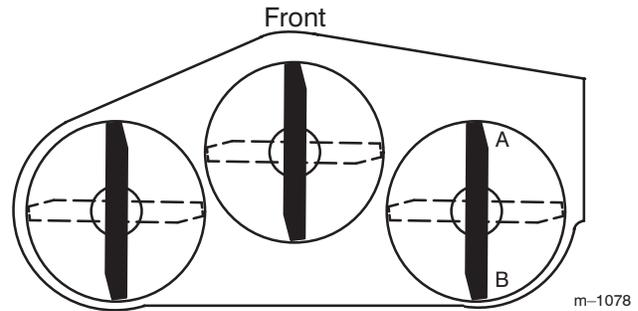
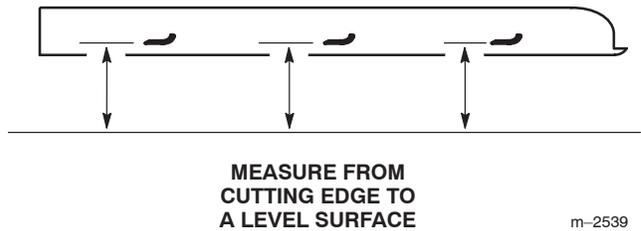

Figure 53
Figure 54
- Position the **right** blade front to rear (Fig. 53).
- Measure the right blade at the **A** location (Fig. 53) from a level surface to the cutting edge of the blade tip (Fig. 54).
- Measure the right blade at the **B** location (Fig. 53) from a level surface to the cutting edge of the blade tip (Fig. 54).
- The mower blade should be **1/4 to 3/8 inch (6 to 10 mm) lower at position A than at position B** (Fig. 53). If it is not correct, go to the following steps.